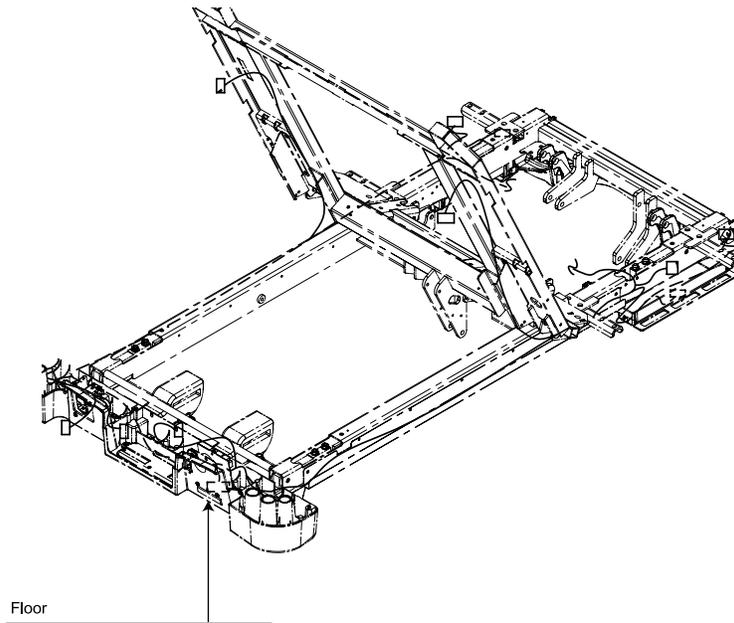

Figure 51 – Placement of the jack stand
9. If the bed will not lower to the lowest position, use a jack stand and a 2 x 4 to take tension off of the actuator clevis pins. Place the jack stand and 2 x 4 between the bottom of the right side of the litter and the floor. Jack the bed up just enough to take the litter weight off of the base frame (Figure 51).